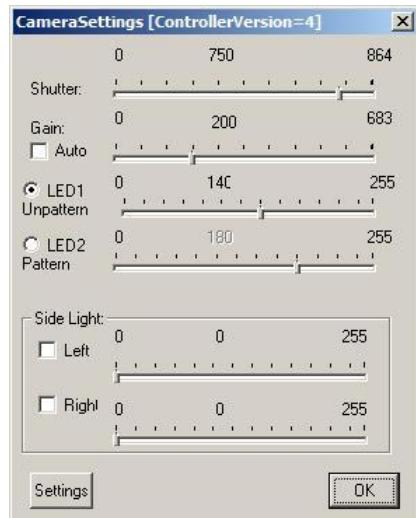

Fig. 116. Camera Settings dialog
- Open the *Camera Settings* dialog through the button in the toolbar (**Settings** button in *Camera* group). The dialog is shown in Fig. 116. Move the Gain slider control to the left to make the camera image less bright so that you can find the focus position.